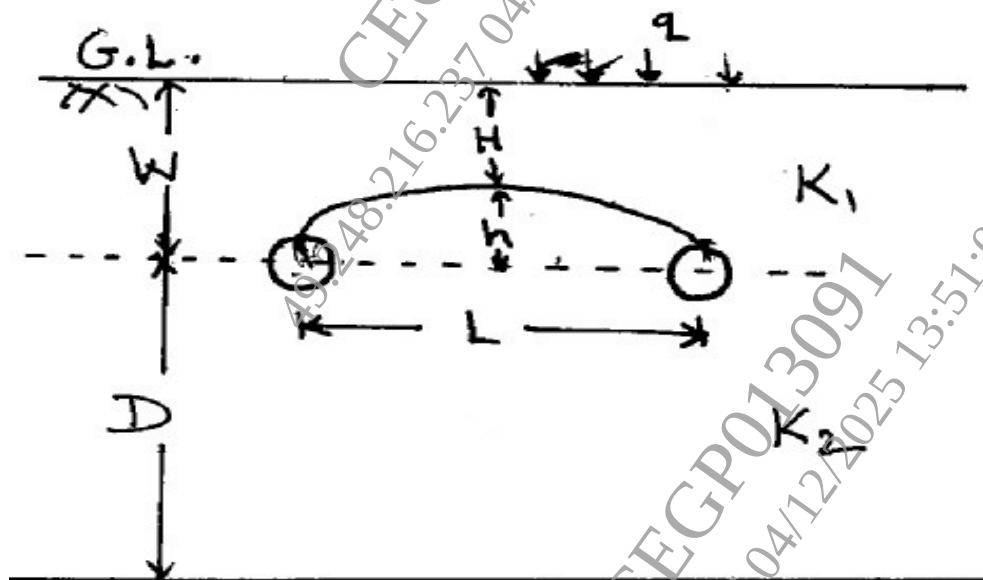

Fig. 8 (c)
- c) Determine the required drain spacing (L) for the basic design criteria $q = 7.9$ mm/d, $H = 0.87$ m, pipe with outer diameter = 0.3 m and wet entry perimeter (u) = 0.45 m. $K_1 = 3.5$ m/day, $K_2 = 2.0$ m/day. $W = 1.7$ m, $D = 3$ m. Refer Fig. 8 (c). Use Hooghoudt's formula. Take only two trials. [9]